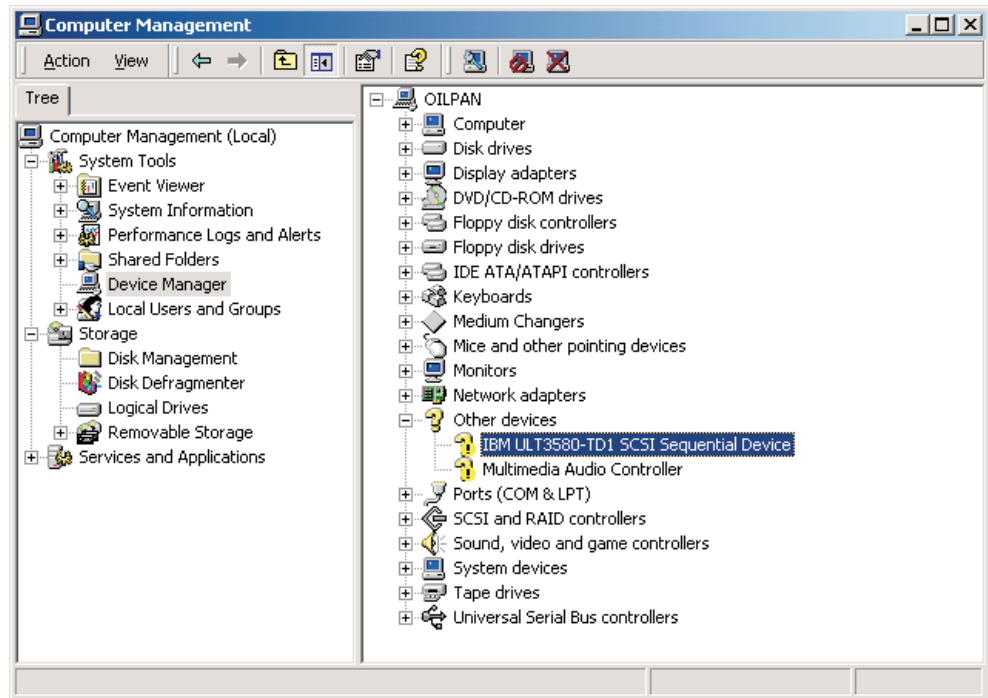

Figure 27. Computer Management Console with Ultrium Device Selected
8. In the **Device Manager** tree, find the Ultrium devices you are installing. Tape devices may be located under the Tape drives node. Changer devices may be located under the Medium Changers node. Either device may be listed as an Unknown device or may appear under the Other devices node. See Figure 27 on page 211